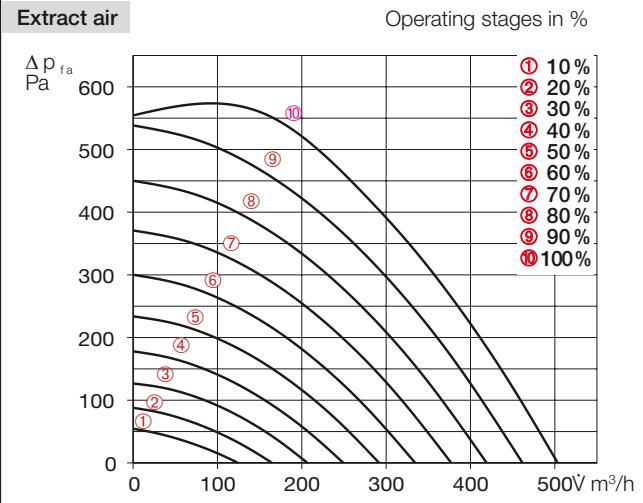

Fig. 24
5. Enter the determined differential pressures from the extract and exhaust air measurement in the unit characteristic curve for extract air (see Fig. 24 and Fig. 26) according to the fan outputs saved in the ventilation profile (cf. Fig. 28 and Fig. 29).